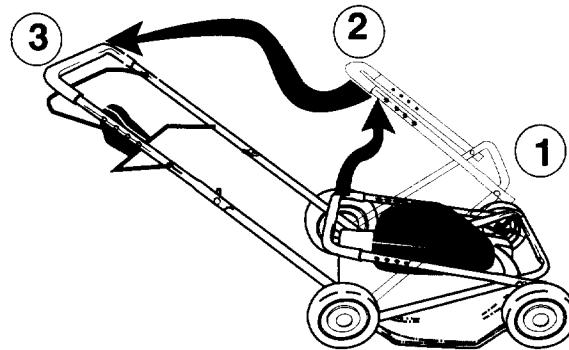

Figure 2
- Pull up and back on the upper handle to raise the handle into the operating position. Make certain the lower handle is seated securely into the handle mounting brackets. See steps 1,2, and 3 in figure 2.